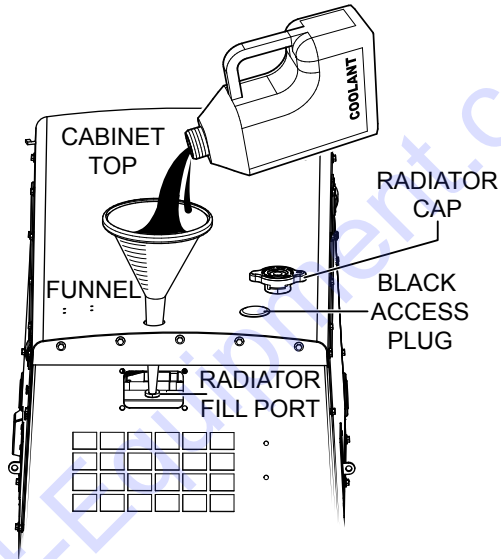

Figure 34. Adding Coolant
1. Remove the black plastic plug (Figure 34) on the top of the cabinet just above the radiator cap access hole opening.